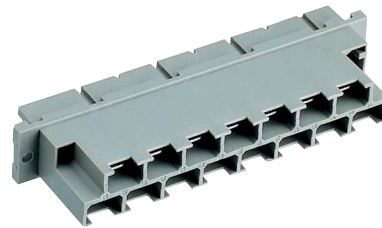

Fig. 23
- Mating H15 connectors with screw, solder, faston, or press-fit terminal; see fig. 23.